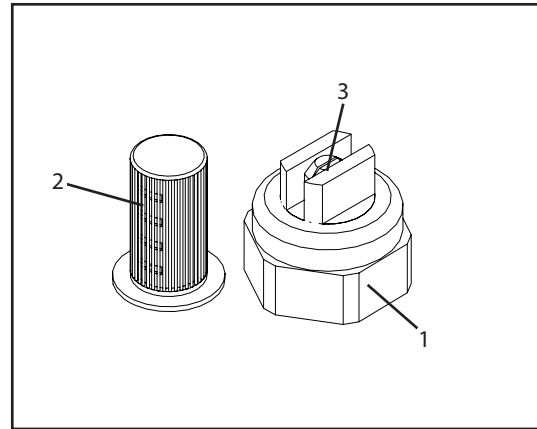

Figure 2: Spray Nozzle
- Remove spray nozzle (1) (Figure 2) from sprayer.
- Disassemble filter (2) and spray tip (3). NOTE: Do not use a wire to clean opening (3) in spray tip.
2. Engage the pump by turning on the power switch (2) (Figure 2, pg 5), then spray with the boom and the spray gun. NOTE: Be sure that the antifreeze has been pumped through the entire system including all spray nozzles.